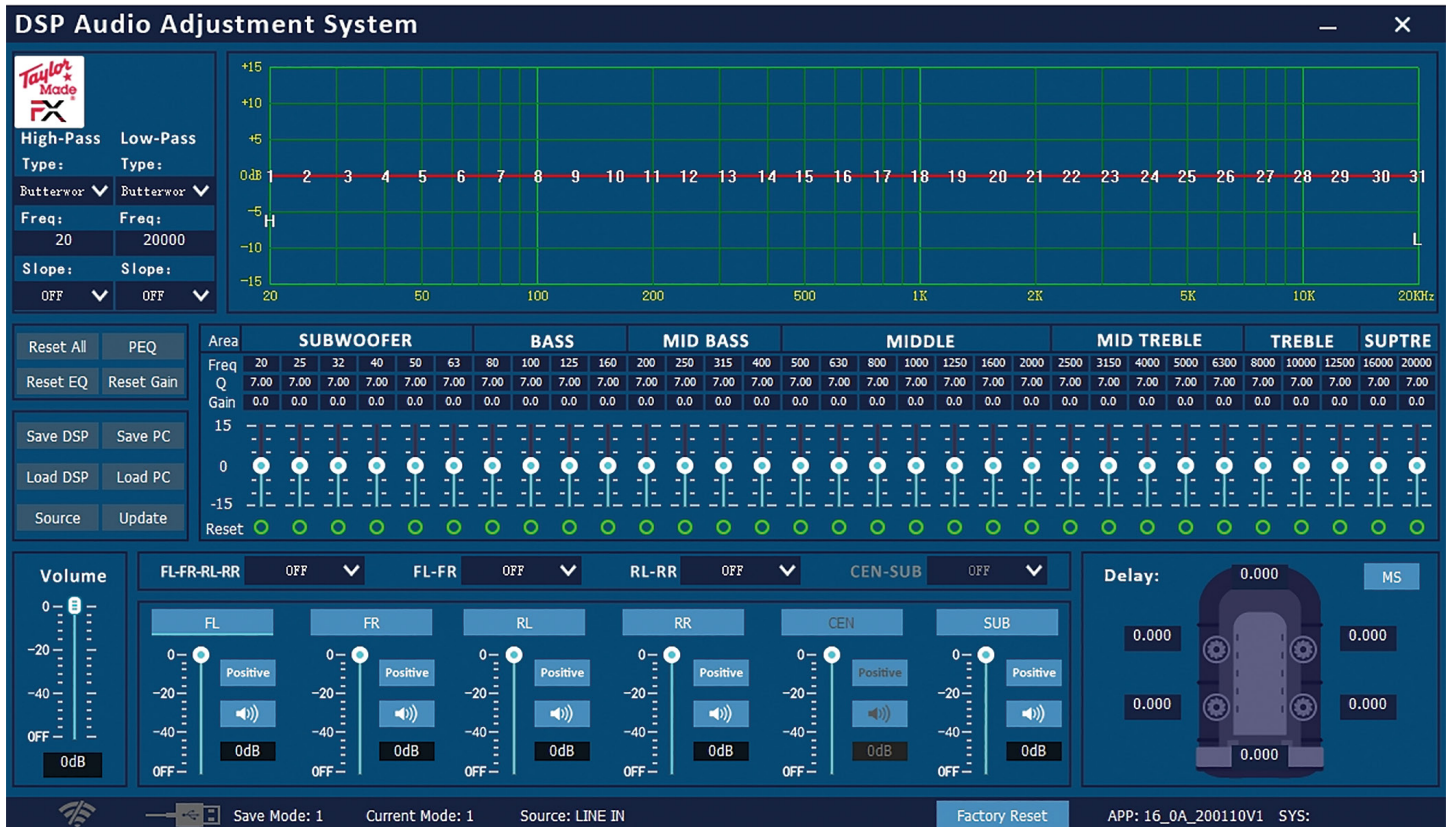

Fig.3
4. Connect to the TM_FX_DSP network to get to the DSP Audio Adjustment System Screen (Fig.3).